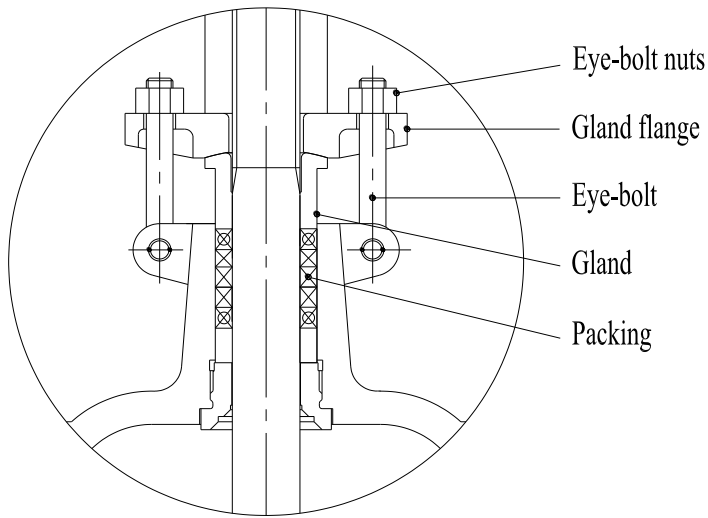

Figure 4 Valve Packing Bore Details
- 6.3.1 Relieve valve body internal pressure, loosen the eye bolts, and remove the gland flange and packing gland (see Figure 4). Lift the flange and gland as high as possible and secure for easy access to the valve packing.